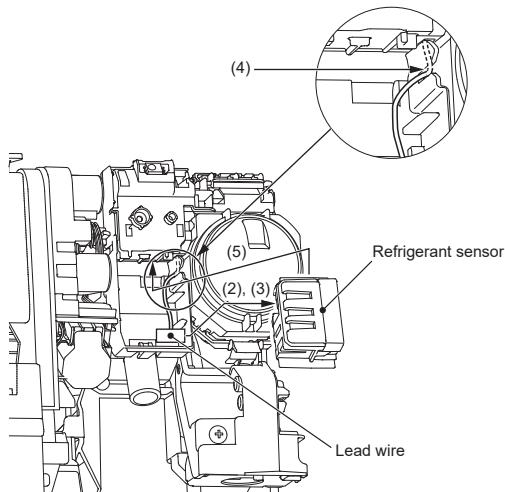
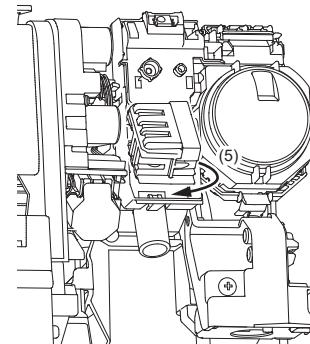

Fig. 1
Fig. 2
(2) Take out the lead wire. (Fig. 1)
(3) Connect the lead wire to the refrigerant sensor. (Fig. 1)
(4) Push the lead wire into the slit so that the refrigerant sensor does not press it.
(5) Install the refrigerant sensor as shown in the figure. (Fig. 2)